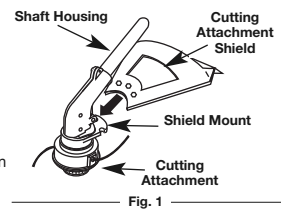

Fig. 1
1. Slide the cutting attachment shield into the shield mount on the cutting attachment. Align the screw holes in the shield with the holes in the cutting attachment (Fig. 1).